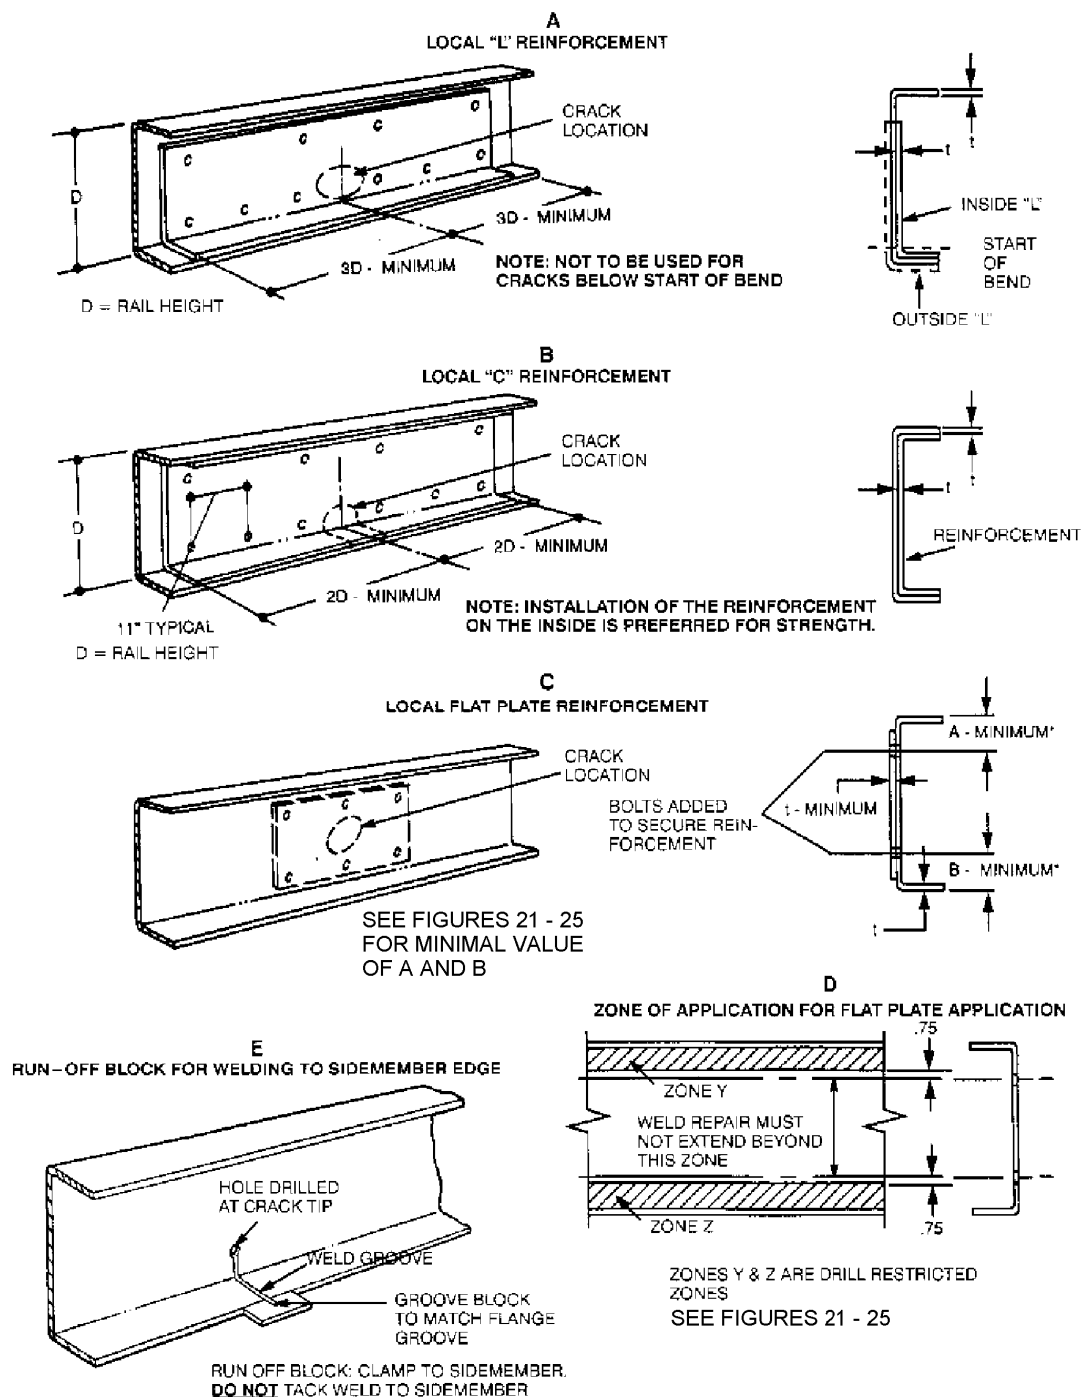

Figure 5 Reinforcement Application
7. For welding cracks to the edge of the sidemember flange, locate a run-off block at the edge as in Figure 5 to obtain a continuous weld without undercuts. After welding, the run-off block should be cut off and the weld should be ground and inspected as in steps 5 and 6 above.
The type, length, material and attachment techniques for reinforcements vary with the type and location of the crack and with the loading conditions associated with the crack. It is not practical to give specific recommendations for all cases of frame cracking, therefore the various types of reinforcements are identified with general descriptions of their applications and installation procedures. To aid in making the distinctions between the more critical flange area and the less critical web area, critical zones are defined as shown (Figure 5 D).
Steps 1 and 2 above also apply to the full length "L" reinforcements available from International. All of these are the inverted "L" type and are designed for installation on the outside of the sidemember section (except 9000 Series) (Figure 5 A).